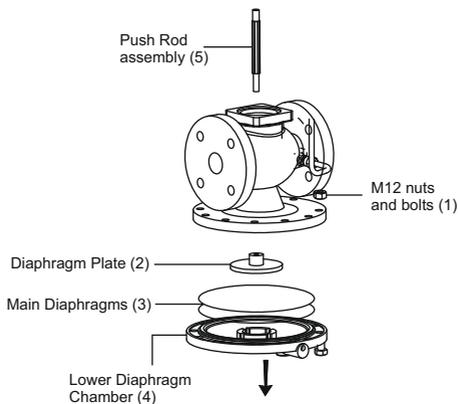

Figure 15 : Resetting the main valve pushrod
7.10. Procedure to reassemble the valve: (Refer to Figure 15)